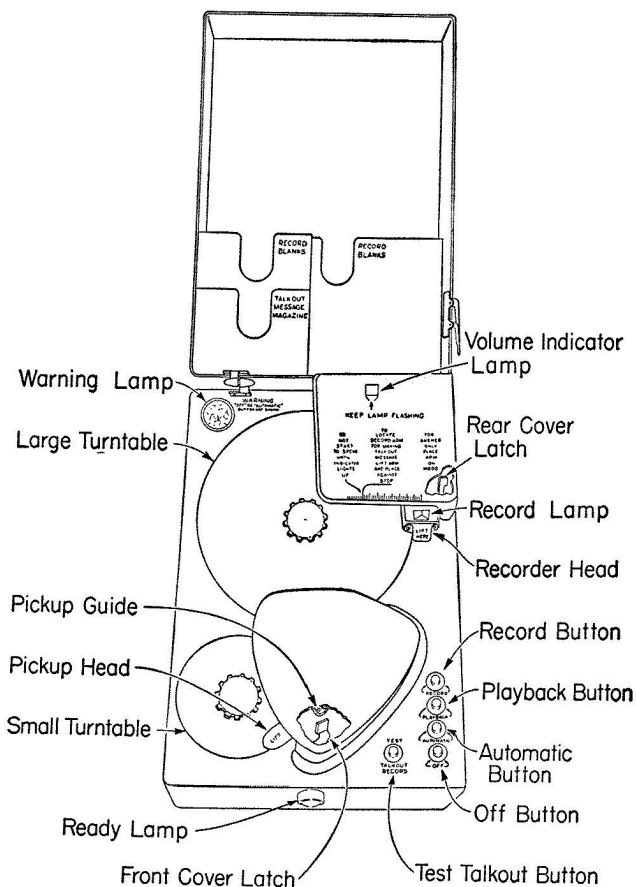

Fig. 1
(a) **Remove the case**—The case is locked in place with two latches. One under the front edge of the shield which protects the pickup arm, and the other under the shield which protects the recording arm (Fig. 1). Slide the forefinger of the left hand in between the pickup head and its cover until the latch lever is found. Care should be taken to avoid disturbing the position of the pickup bridge (Fig. 2) while removing the case. Insert the thumb of the right hand along the right side of the recorder arm shield until the other latch is located. Press the front latch **forward** and the rear latch **backward** until both are released. Remove case by lifting vertically. Place the case to one side.
- (o) Remove the protective cover from the pickup head and move the pickup arm to the forward stop on the bridge (Fig. 1).
6.04 Record a suitable announcement message, e.g., "This is Exchange 6-9970. You are being answered by an automatic machine. This is a test record being used by the Telephone Company to check the service. When you hear the first tone signal, please leave a message commenting on the performance. Do not hang up until after you hear the second tone signal." While recording, use transmitter in the normal manner and speak loudly enough to keep the volume indicator (see Fig. 1) flashing brightly.
6.08 Remove the small record from the large turntable and place it on the small turntable. Place the pickup arm at the forward end of the bridge as far as it will go (see Fig. 1). Remove the hand set from its mounting, depress the TEST TALK OUT button, and listen to the announcement message in the hand set receiver. Check to be sure that the message is complete and intelligible. When listening to the announcement message in this manner, the volume is automatically adjusted to be less than will actually be transmitted to the line when the machine responds to a call.